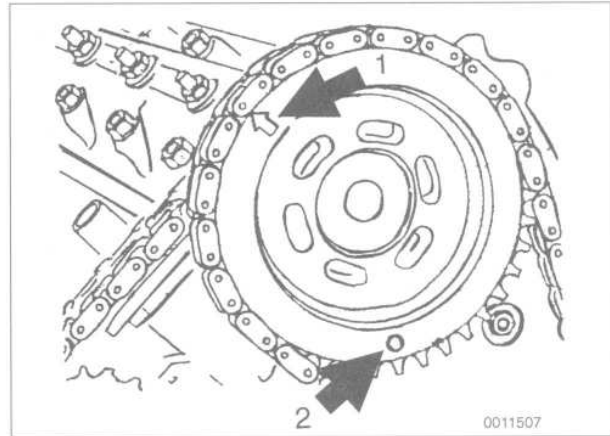

Fig. 54. Intake sprocket correctly aligned to camshaft with arrow pointing up (1) and sensor pin in lower left (2).
- Install intake sprocket (right cylinder head) to timing chain and camshaft with arrow on sprocket pointing up and dowel pin for camshaft position sensor in lower left. See Fig. 54.